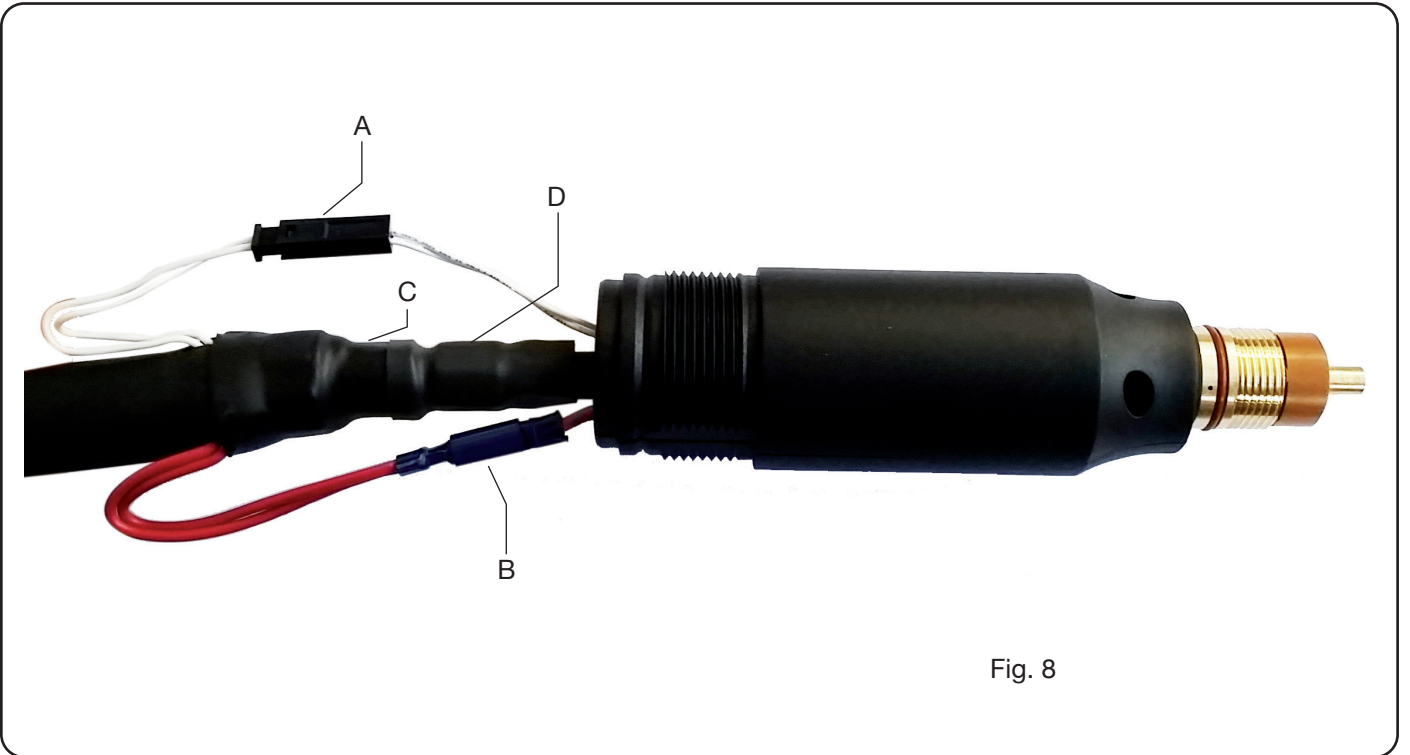

Fig. 8
- Unscrew the retention dowels **G1** and **G2**, then handle **M**, pull it back until all cables are shown (see Fig. 8).
- Screw in fittings **D** and **E** according to the arrow direction - Fig. 8
- Unscrew the retention dowels **G1** and **G2**, then handle **M** and pull it back until all cables are shown (see Fig. 8);
- Screw in fittings **D** and **E** according to the arrow direction - Fig.8.